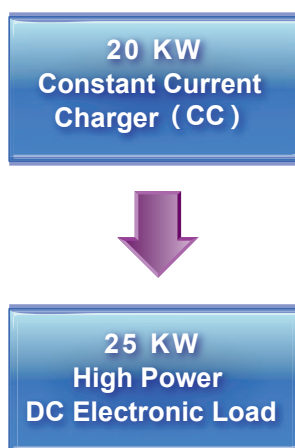

Figure 2 : Single charger connects to a single load
In case only a 20 kW electronic load is available, a 5 kW load model can be added at any time to be used in parallel with the original 20 kW load in Constant Voltage (CV) or Constant Resistive (CR) mode of operation. This is illustrated in Figure 2. This is due to the Prodigit load's OPL function which allows CV or CR mode with parallel loads of unequal power ratings. This capability offers great flexibility in deploying multiple loads for a wide range of power requirements.